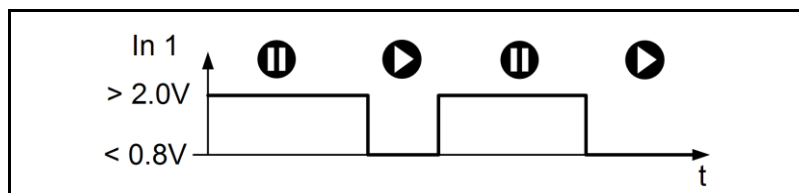

Fig. 63: Start / Stop level actuation
- ➔ The pump will start to operate if the level is below 0.8 V, and stop if it is above 2.0 V (see Fig. 63).